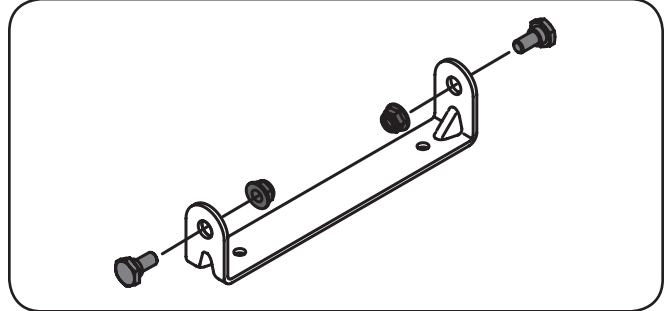

**Figure 3-4**
7. Slide the pedestal cap down onto the tractor and connect the headlight as shown in the inset of Figure 3-4 (1) and slightly rotate to the right to clip into place. Secure the pedestal with the screw (2) previously removed. See Figure 3-4.